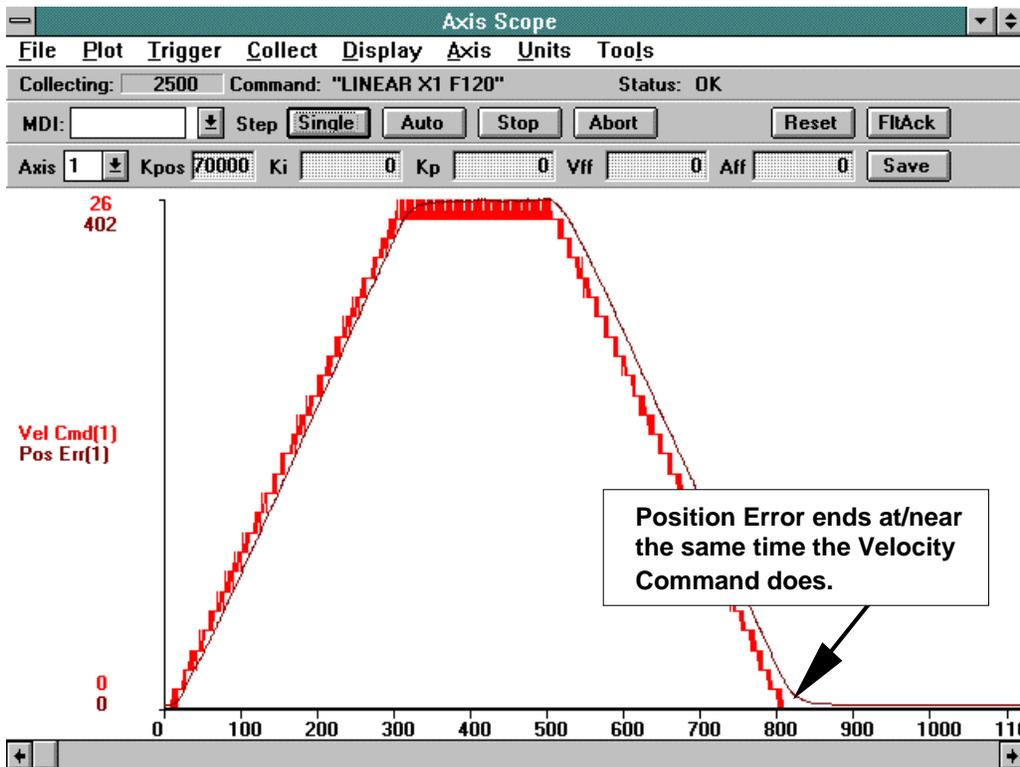

Figure 6-27. Plot Illustrating Smoothness in the Position Error
9. Finish adjusting the Position Loop (Kpos) where the main concern is to strive for smoothness in the position error and to have the position error end at or near the same time the Velocity Command ends. After repeating the process of starting and stopping the axis and adjusting Kpos the graph should look like Figure 6-27.
Referring to Figure 6-27, the position error ends at or near the end of the Velocity Command. The point where the user stops adjusting the Kpos depends upon how much settling time is allowed in the system.